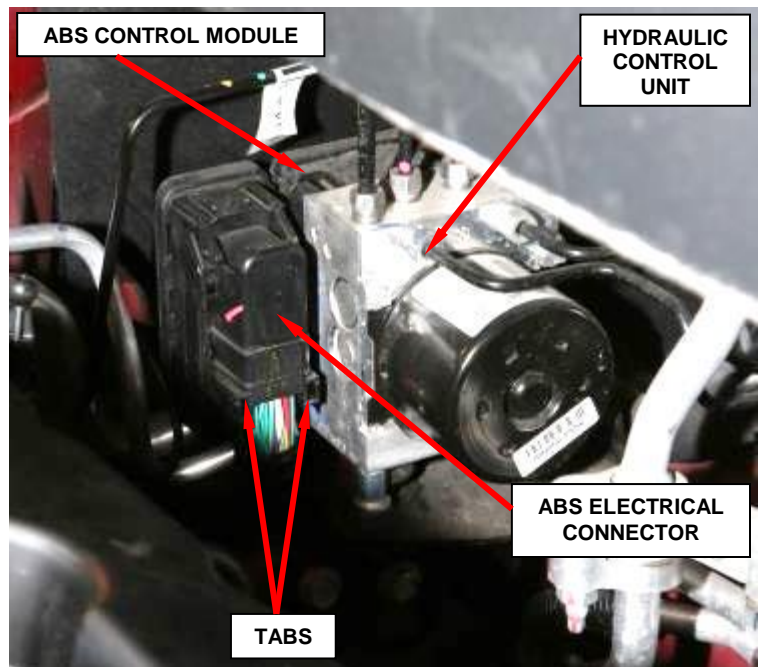

Figure 6 – ABS Electrical Connector
a. Depress the tabs on each side of the electrical connector cover (Figure 6).